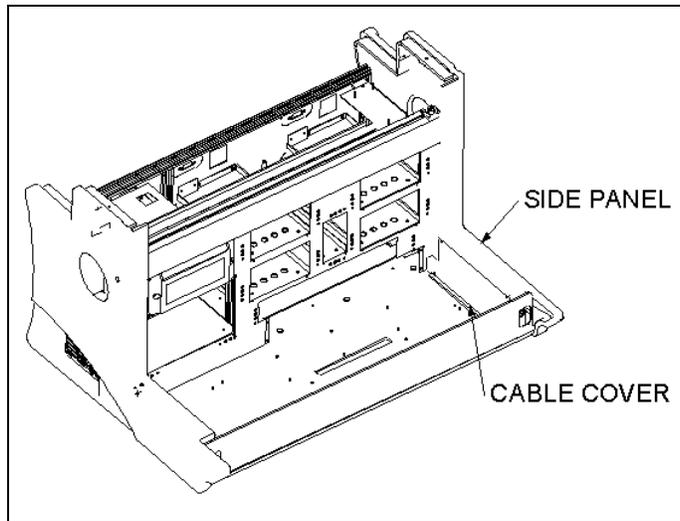

Figure 16-5 Right Cable Cover
- 1 Remove the right cable cover (Part No. 204023400) by removing the four M4 x 8 BHCS Screws (Figure 16-5).